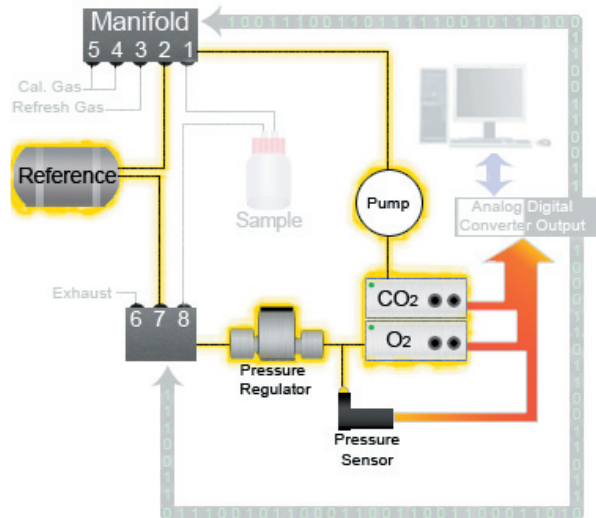

Figure 15
Step 10: Lastly, we measure the Reference Chamber air again (Figure 15). We compare these numbers to those recorded in Step 5. The difference in the two values (if any) is termed “Sensor Drift.” Over the course of a long experiment, the sensors begin to wander off from their calibration setting. Since calibrating in the middle of an experiment is impossible, we measure a known sample of air at the end of each measurement cycle, and see how it compares to itself over time. The values reported for the samples are adjusted to account for drift.